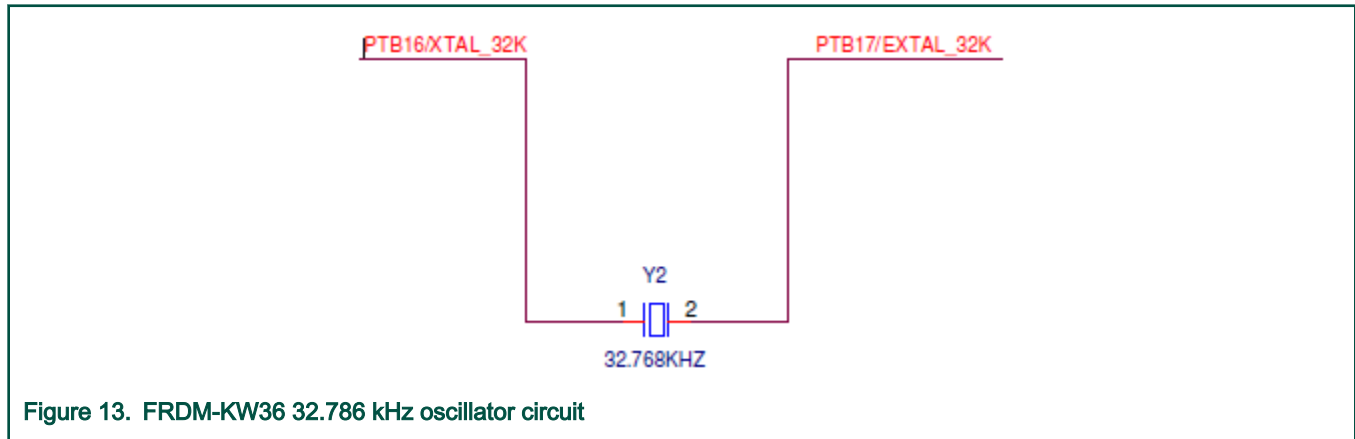

Figure 13. FRDM-KW36 32.786 kHz oscillator circuit
- 32.768 kHz crystal Y2 is provided (see Figure 13).